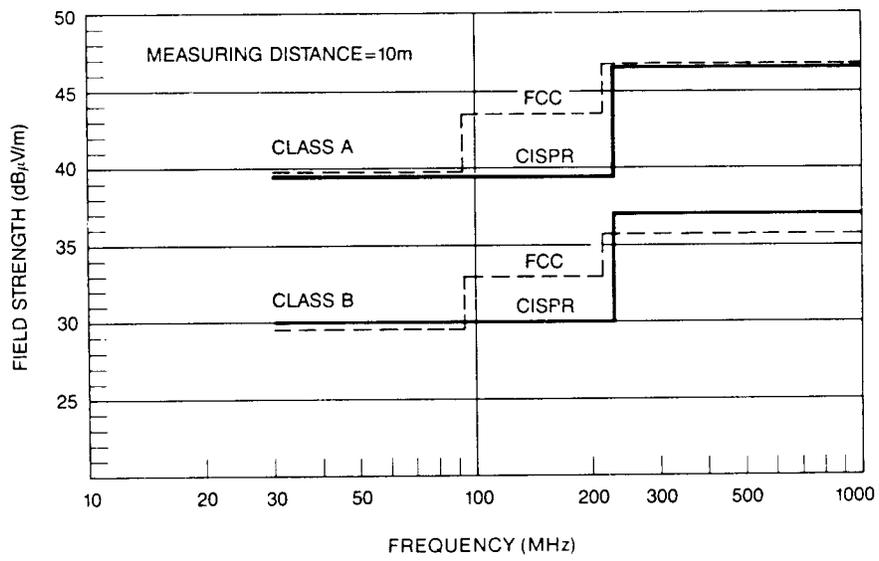

Figure 1-8. FCC Part 15, Subpart J and CISPR, Publication 22, radiated emission limits measured at a distance of 10 m.
- Figures 1-8 and 1-9 compare the FCC and CISPR limits for radiated and conducted emissions.